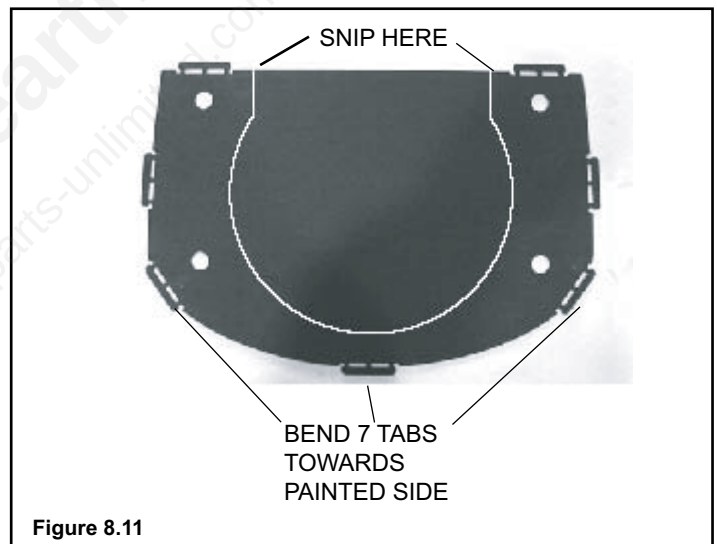

Figure 8.11
1. **For use with top venting:** See **Figure 8.11**, below. Use the tin snips to cut the straight edges.